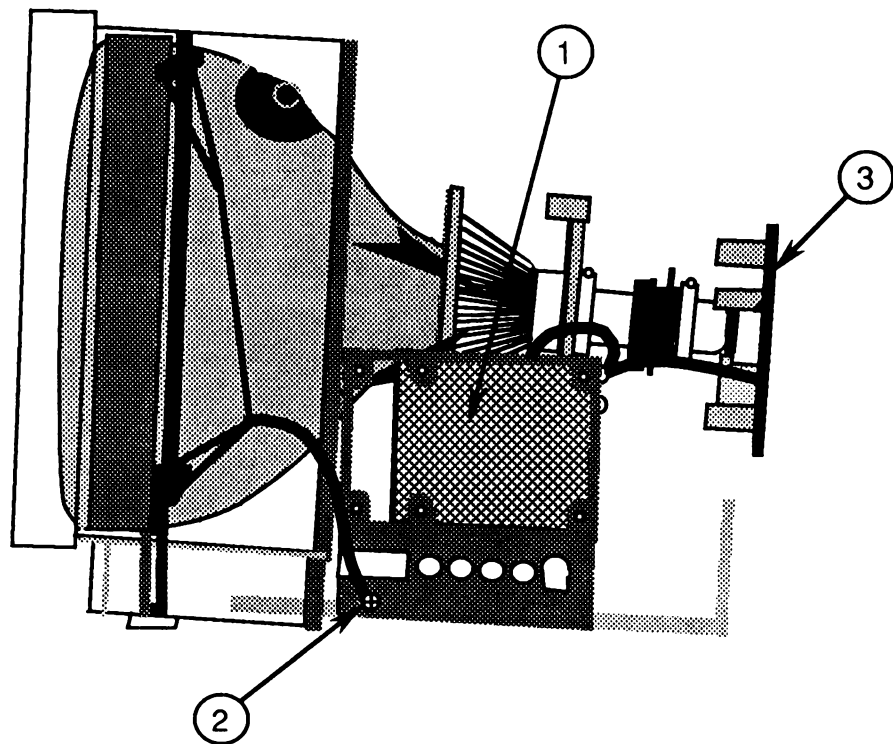

FIGURE 29
4. Locate the power supply board (Figure 29, #1).